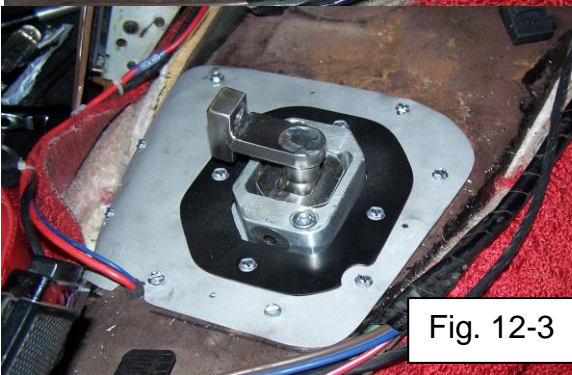

Fig. 12-3
- Install seal panel BMG-03003, sandwiching the lip of the body seal between the patch and seal panels, and attach with (4) sheet metal screws. Do NOT overtighten screws. See Fig. 12-3.